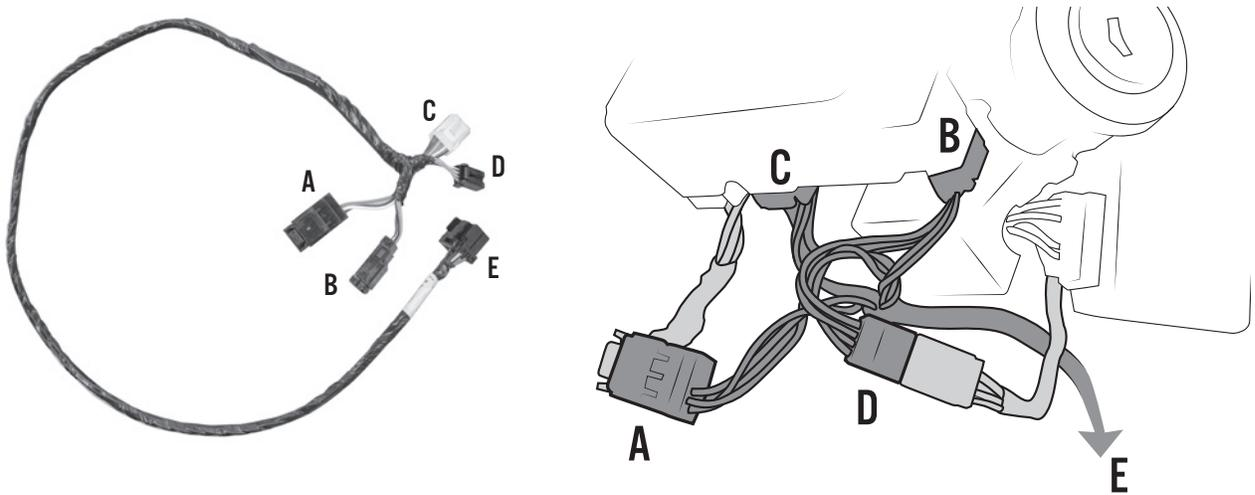

Figure 51
- f. Plug in the AEV harness as shown (fig 51).